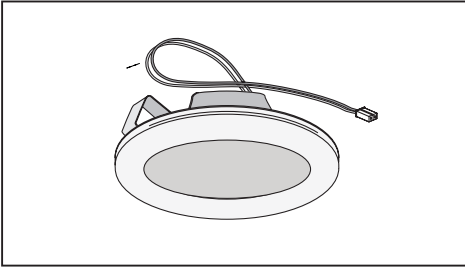

Fig.4
• **The active carbon filters (Fig.4)** are used to purify the air that is sent back into the room and its function is to mitigate the unpleasant odours produced by cooking.